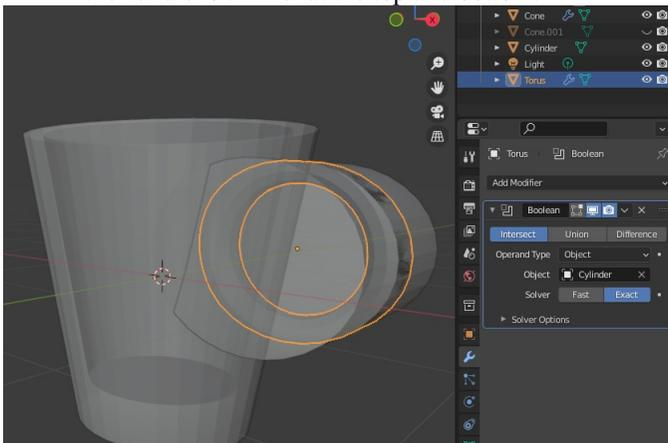

Figure 2-2 Handle made from a torus intersecting a squashed cylinder
6. To make the handle more elegant, carve some of the ceramic material from the outside of the torus using a cylinder: **Add ▶ Mesh ▶ Cylinder**, rotate it 90 degrees about the X axis, scale it down, and move it so it contains most of the torus as shown in Figure 2-2. Scale it slightly more in the Z direction so the handle is thinner at the top and bottom.